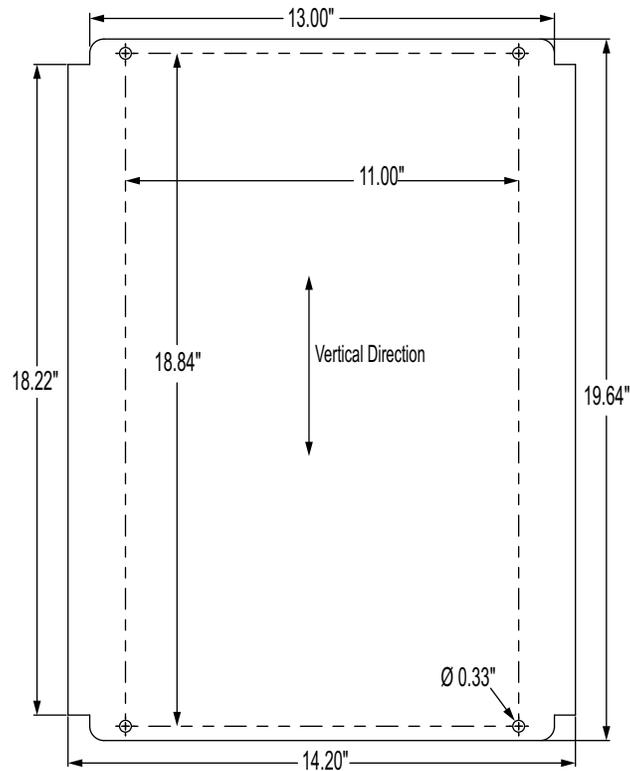

Figure 2-14. Wall Mount Dimensions
1. Using the wall mount as a template, mark the screw locations. See Figure 2-14 on page 10 for dimensions.
This illustration is not to scale. It is for illustration purposes only. Use the dimensions to mark the holes for the wall mount. Do not use Figure 2-14 as a template.